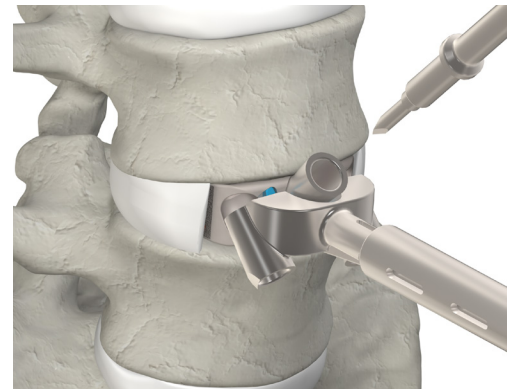

Figure 9
- ▲ Insert the distal end of an awl through the Guided Inserter and apply axial force to the handle to puncture the cortical bone of the vertebral body (Fig. 9).